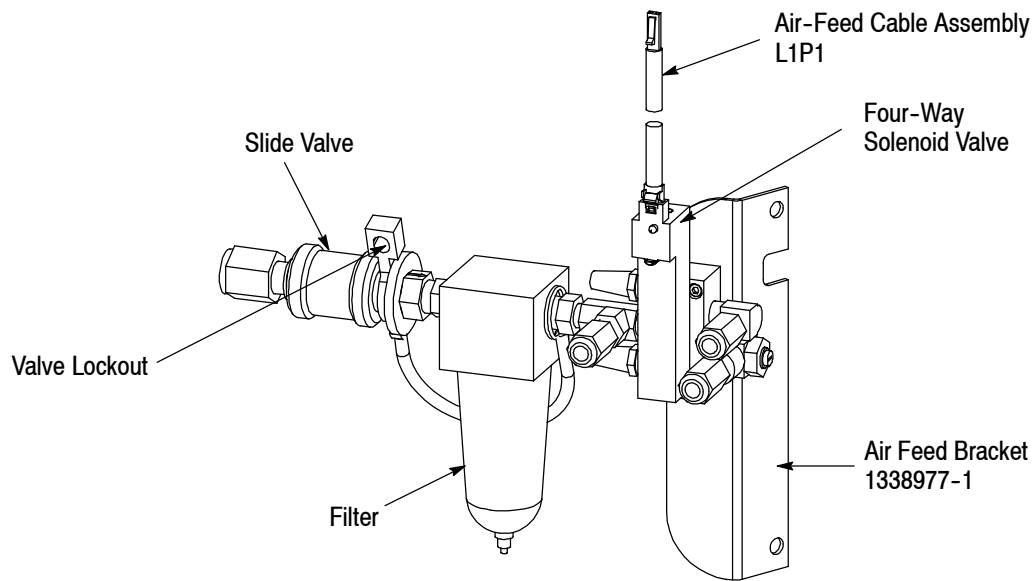

Figure 29
1. Install Air Feed Bracket 1338977-1 to the frame (see Figure 29) using the two screws in the electrical box support bracket (Figure 28).
5. Turn the air “on” by moving the slide valve (Figure 29) **toward** the filter.